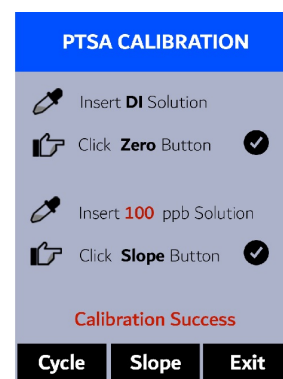

Figure 15.
11. If the calibration succeeds, a checkmark ( **✓** ), a “**Calibration Success**” message will appear (Figure 15). Otherwise, a warning message is displayed.